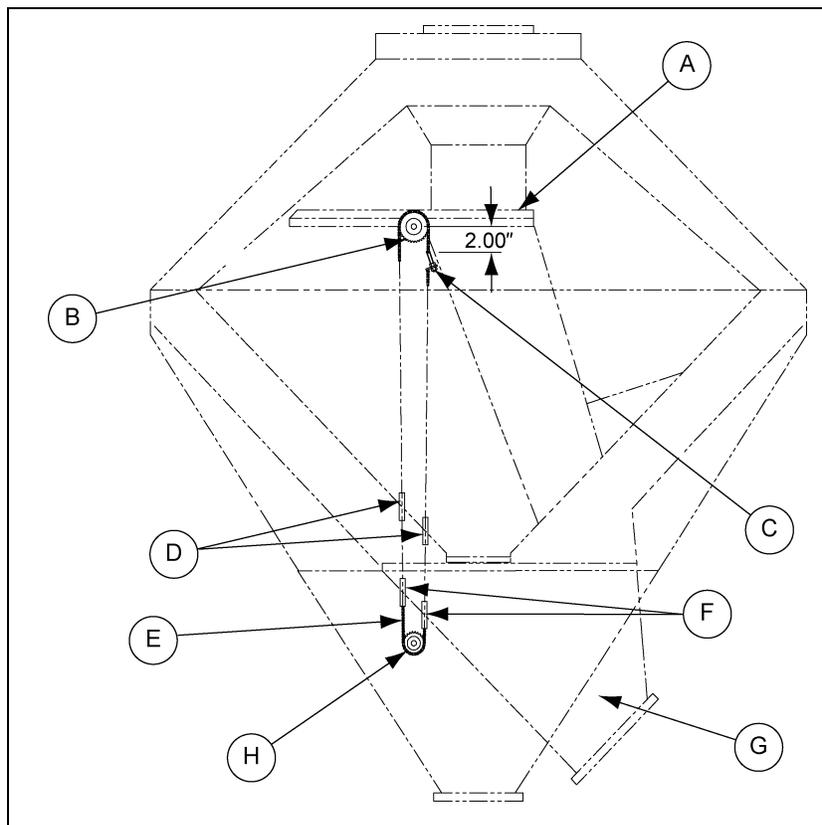

Figure 5K Internal Chain Assembly (Models PC-16000, PC-25000 and PC-40000)
These larger size screeners employ a chain assembly and sprockets to connect the upper and intermediate gate control shafts. (*See Figure 5C on Page 22 and Figure 5K on Page 29.*)
2. Route the chain assembly around the sprockets and through the guide tubes as shown in *Figure 5C on Page 22 and Figure 5K on Page 29*. The chain tightener must be positioned to the right of the sprocket and 2" below the centerline of the upper sprocket.